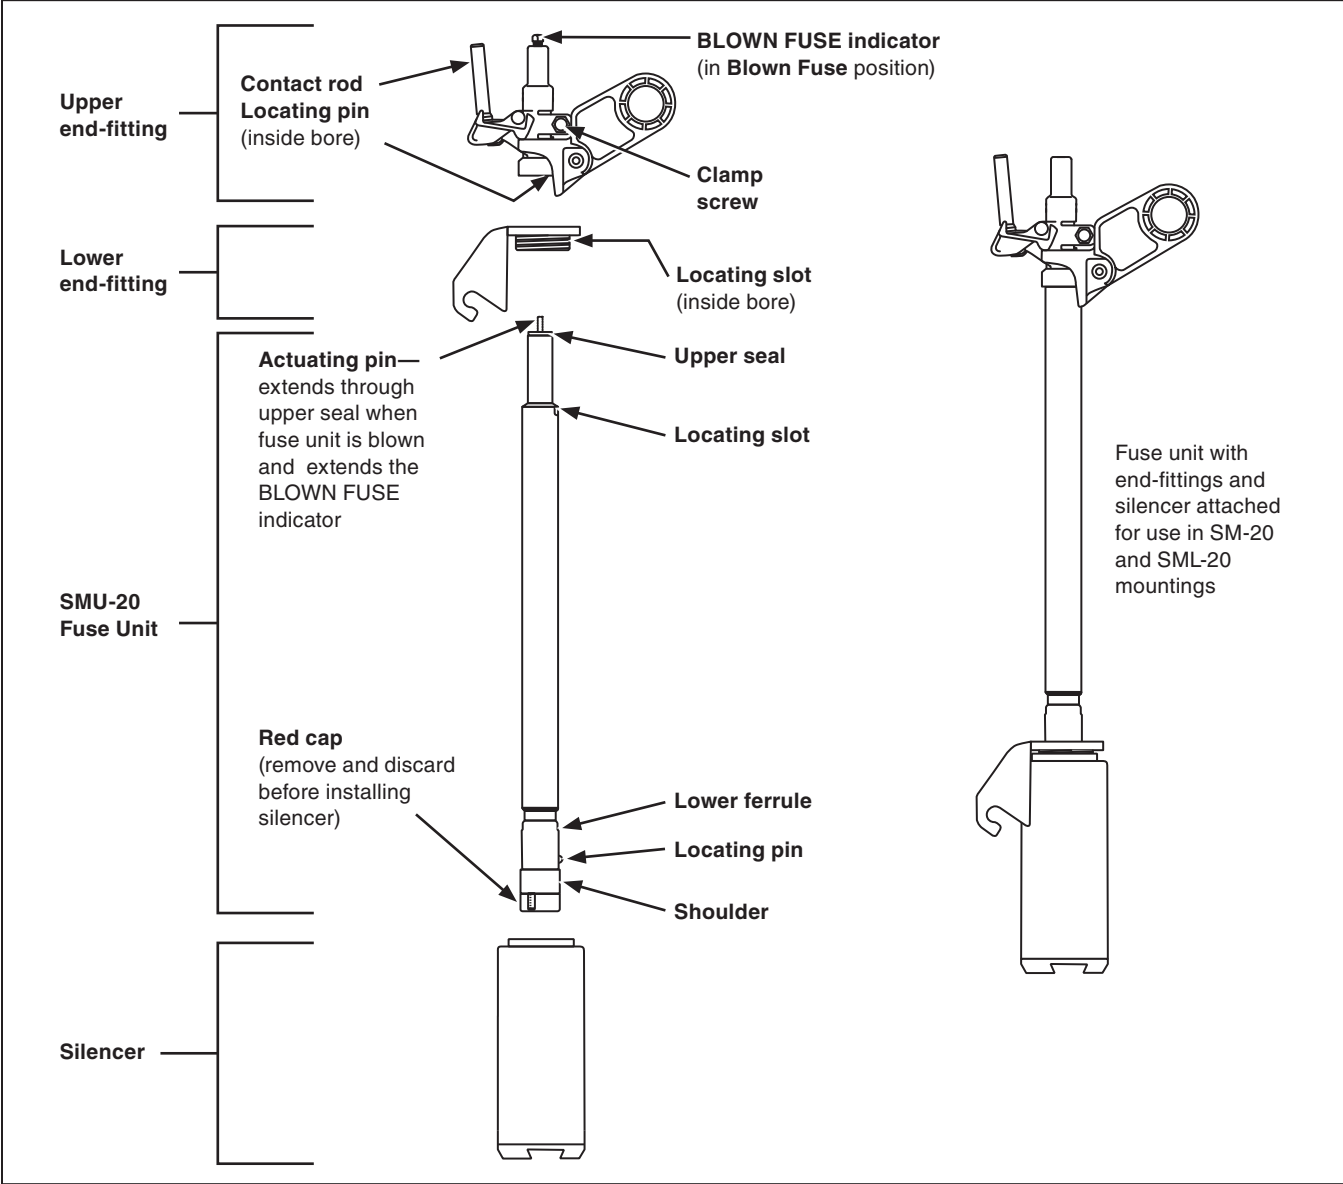
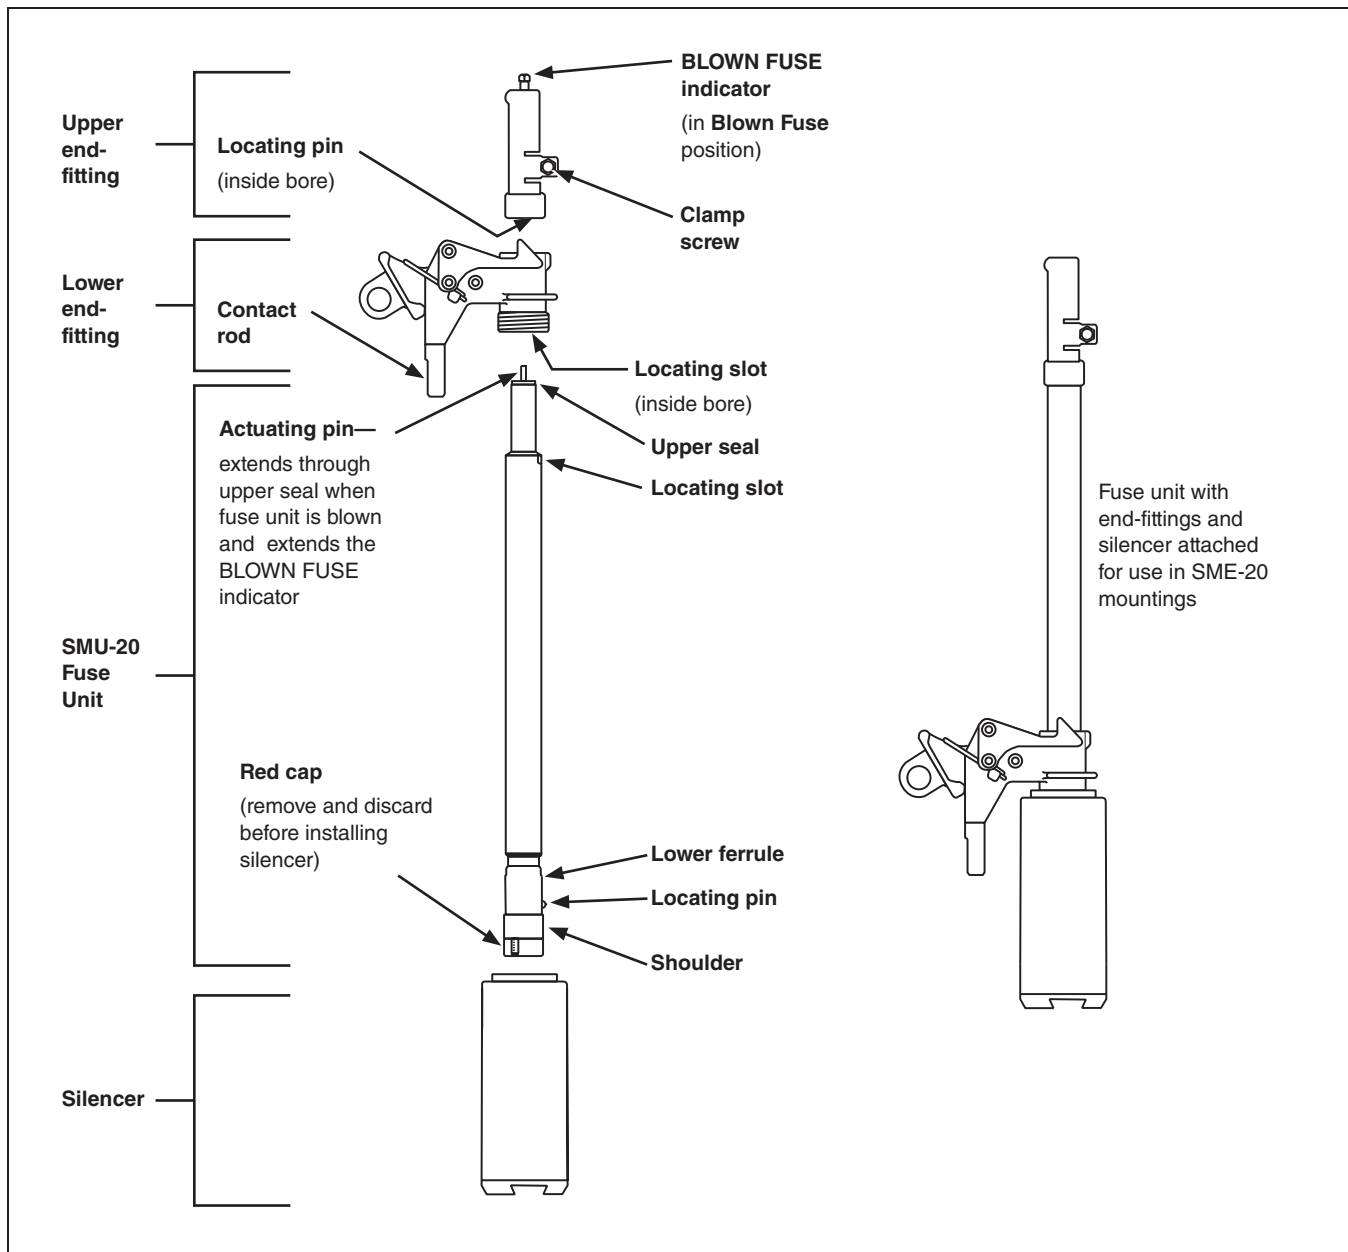
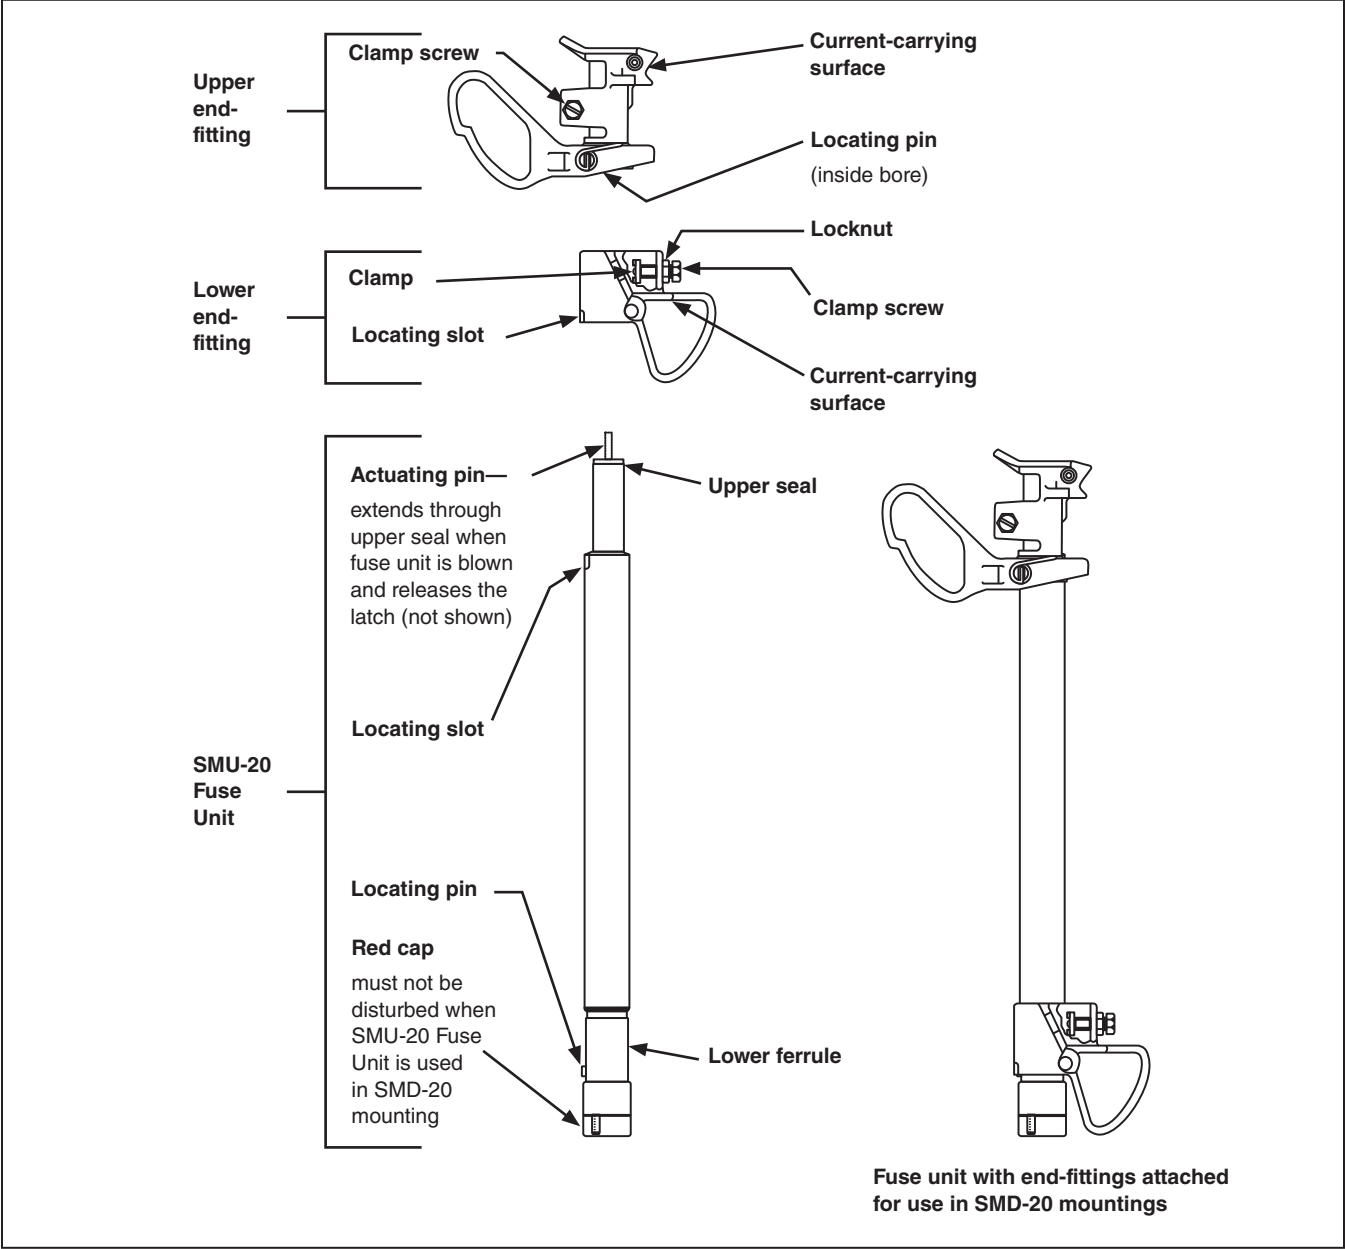

Figure 1. An SMU-20 Fuse Unit with end-fittings and a silencer for use in indoor SM-20 and SML-20 Power Fuse mountings.
Figure 2. An SMU-20 Fuse Unit with end-fittings and a silencer for use in indoor SME-20 Power Fuse mountings.
Figure 3. An SMU-20 Fuse Unit with end-fittings for use in SMD-20 Power Fuse mountings.
Moreover, end-fittings for use in an SME-20 mounting are not interchangeable with end-fittings for SMD-20, SM-20, or SML-20 mountings. See Figure 1 on page 9, Figure 2 on page 10, and Figure 3 on page 11.
The final fractional turn should be made with a bar or wrench handle applied to the base of the silencer. See Figure 1 on page 9 and Figure 2 on page 10.
- STEP 1.** The lower end-fitting must be attached first. Slip the lower end-fitting over the upper end of the fuse unit and slide it down until the locating slot (inside the lower end-fitting) seats on the locating pin on the lower ferrule. Next, back off the locknut on the clamp screw and tighten the clamp screw firmly; secure it with the locknut. See Figure 3 on page 11.